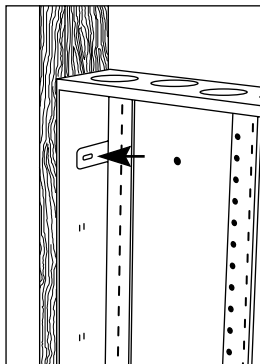

Figure 3-1. In-wall mounting screw locations.
2. Mark and drill pilot holes for the mounting screws (see Figure 3-1).